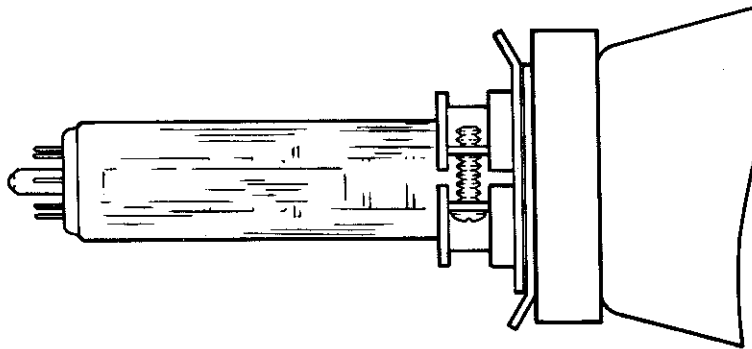

Figure 4-5 Partial View of CRT Neck/Deflection Yoke
16. There are two black centering tabs toward the back of the yoke (see Figure 4-5). These center the display. Adjust the tabs to align the graticules with the furnished overlay.